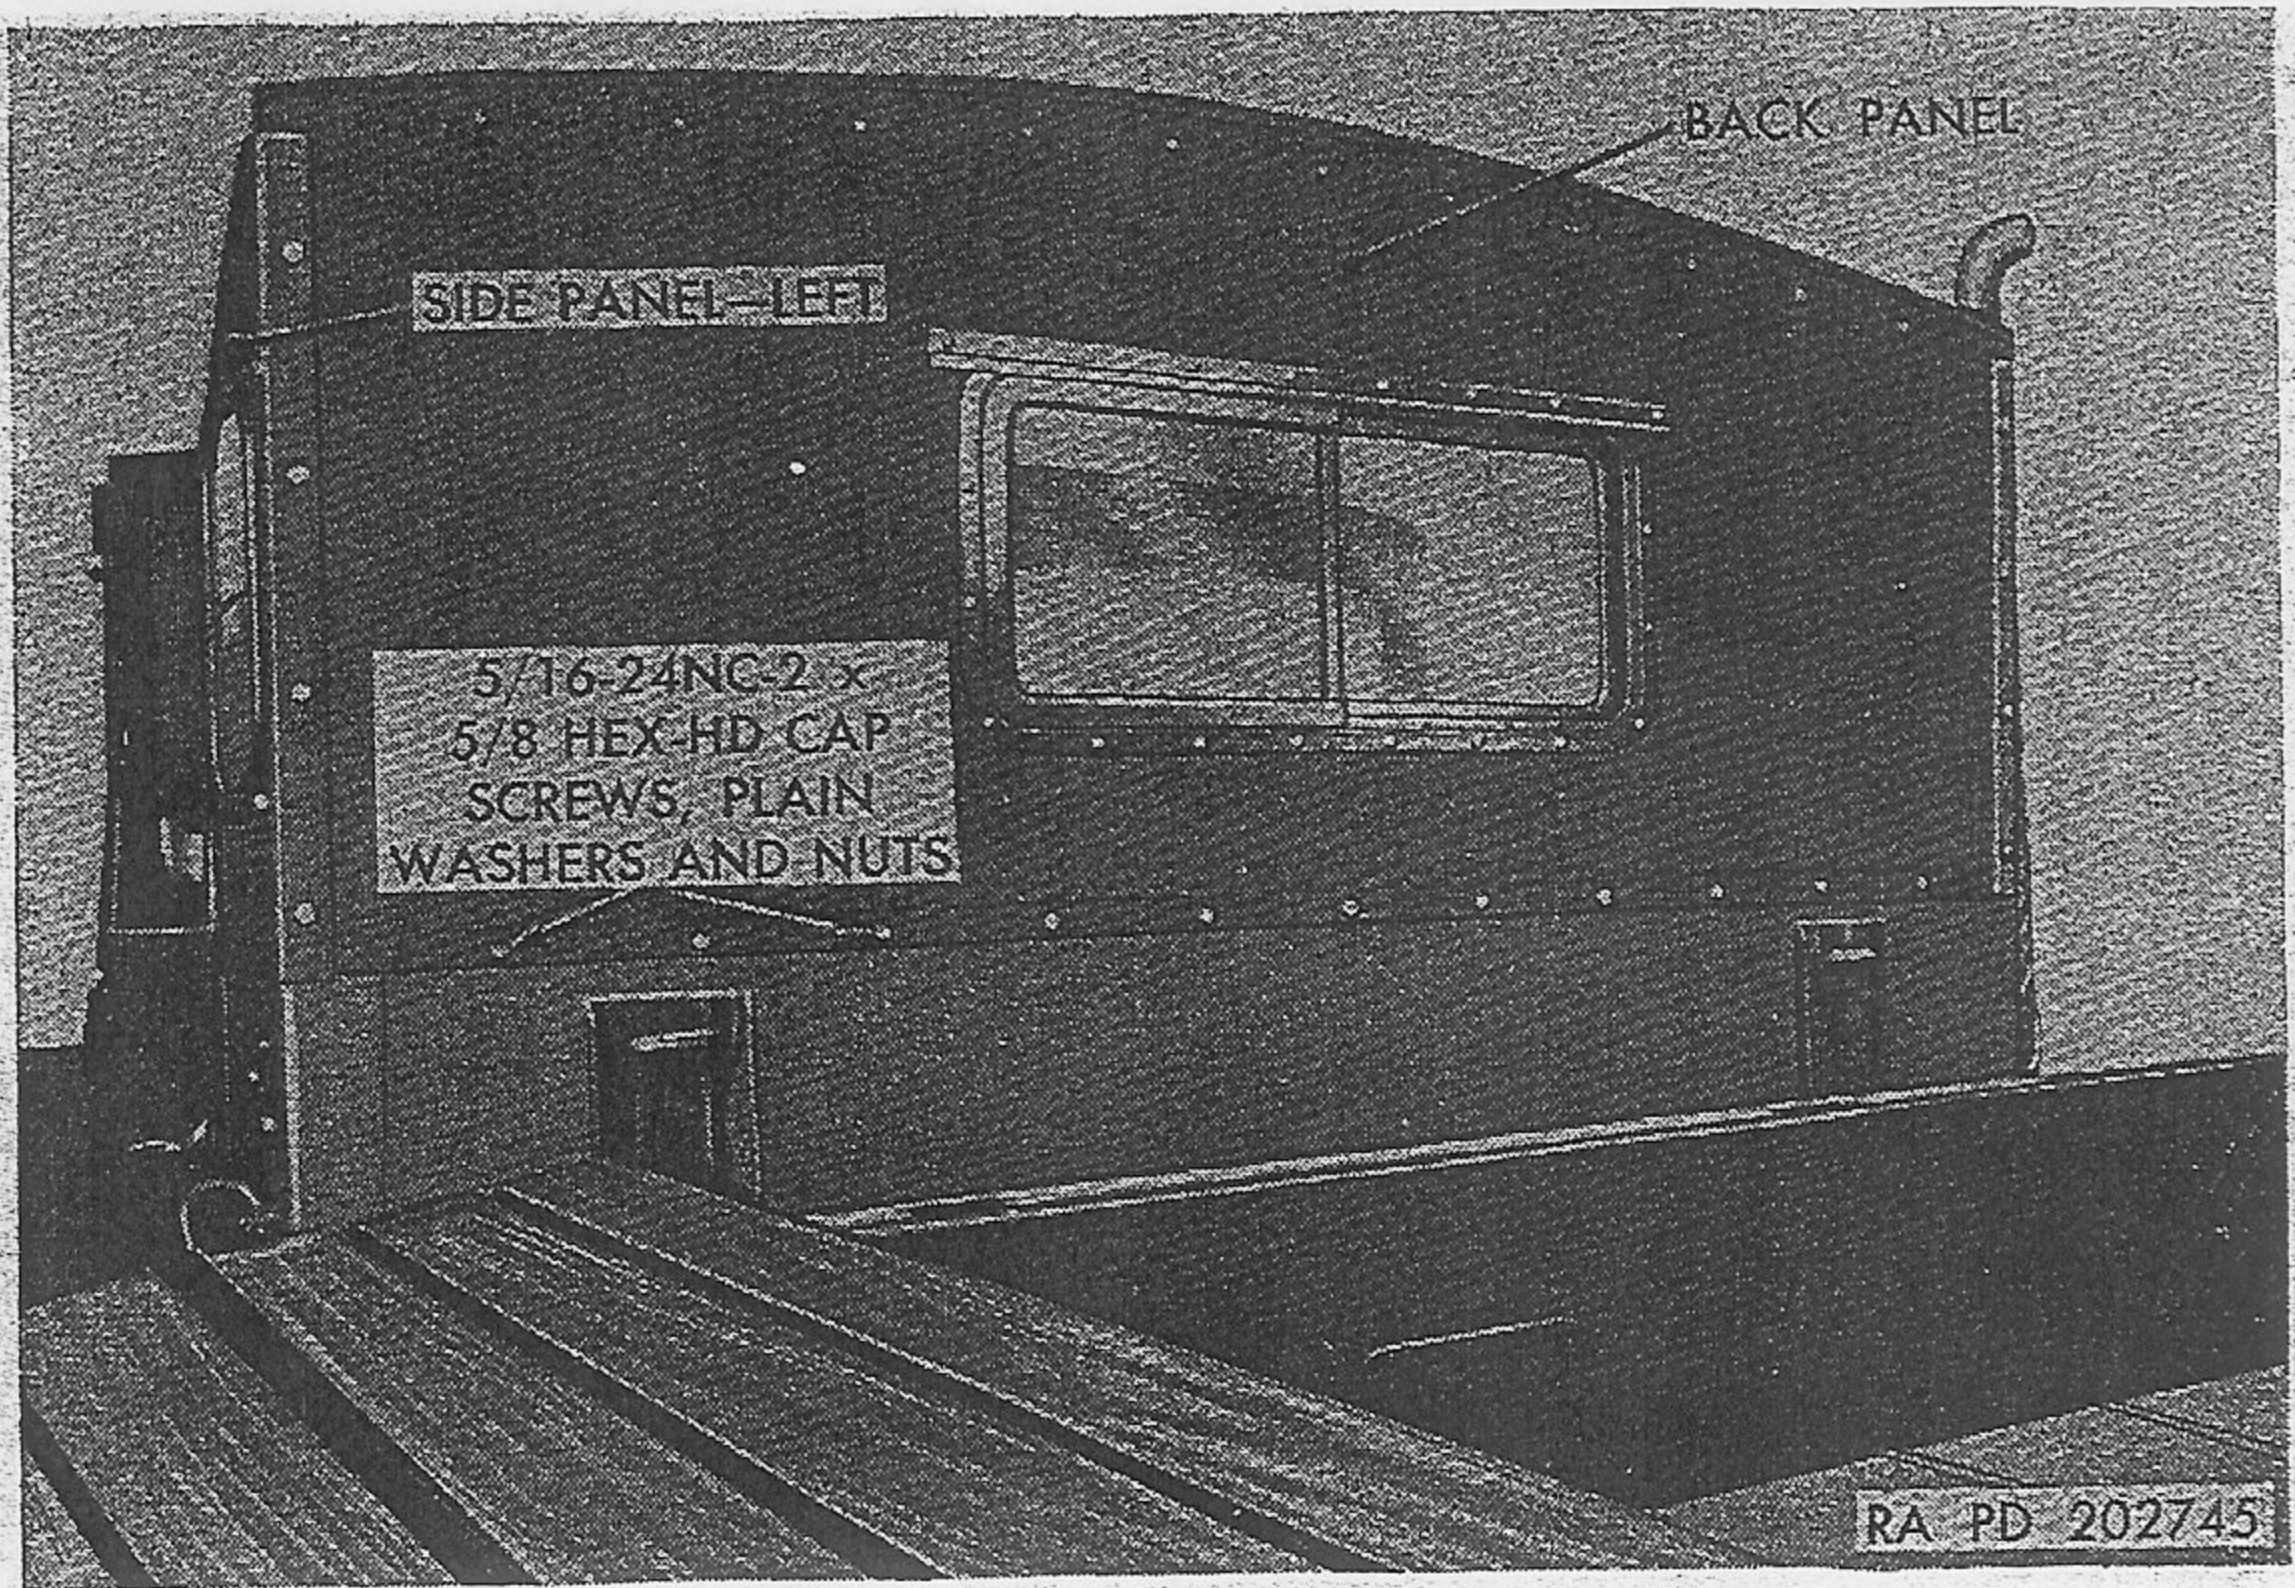

Figure 8. Back and side panels installed—rear view.
- (2) Install eleven  $\frac{5}{16}$  x  $\frac{5}{8}$  hex-head cap screws with plain washers and hex nuts in bottom holes of back panel and chassis, as shown in figure 8.